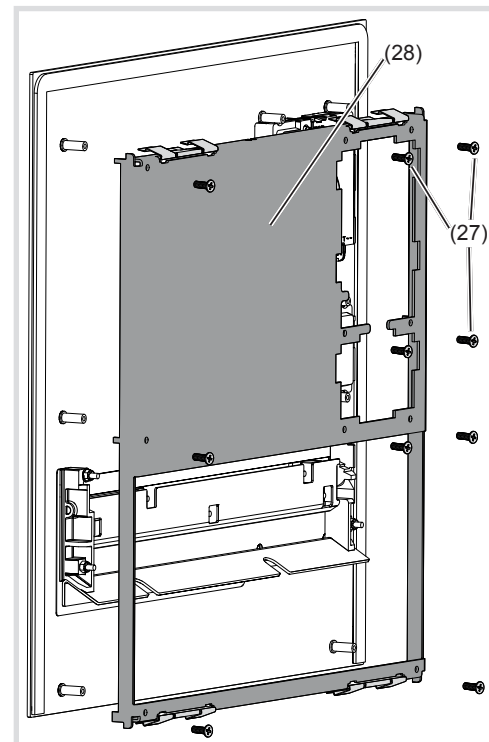

Figure 21: Dismantling module mounting
- Pull off connection terminal block (11) on the video insert.
- Loosen screws (27) of the module mounting at the back (28) using a screwdriver and remove the module mounting (Figure 21).